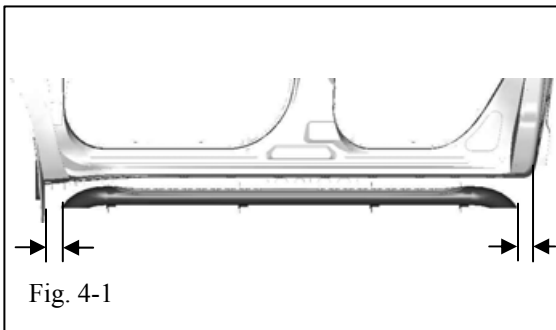

Fig. 4-1
- (a) Visually align tube step to be centered on vehicle and parallel to body (Fig. 4-1).